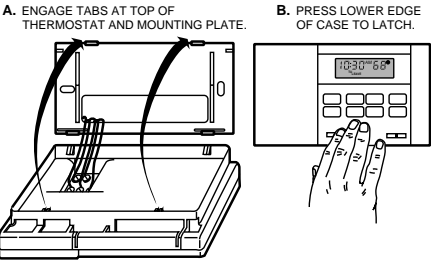

Fig. 10. Mounting thermostat on mounting plate.
1. Engage tabs at the top of thermostat and mounting plate. See Fig. 10 and 11.